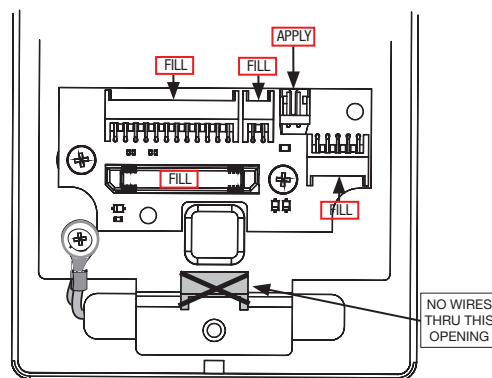
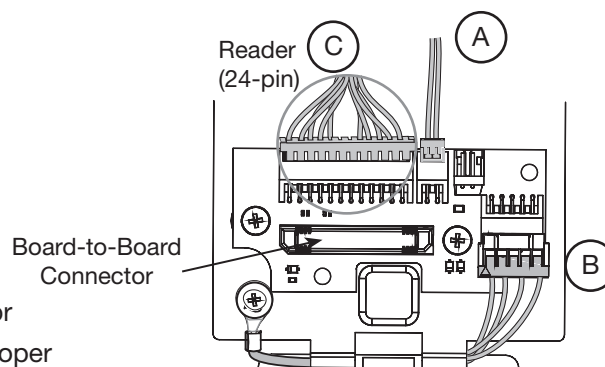

Fig. 3A
Fig. 3B
NOTE: Exit chassis harness consists of a 6-pin female connector and two different-sized ground lugs (Fig. 3A)
2. Feed 6-pin connector and larger ground lug straight through to outside of door (Fig. 3A, B) while feeding smaller ground lug into wire hole, up through wire channel and out through inside of door (Fig. 3A).
- Ensure all connector pins and contacts (Fig. 3A) are covered - do not overfill or over-apply\*\*
IMPORTANT: Do not run wires through bottom hole in plate (Fig. 3A, B) - it will damage wires and the controller connector. Route wires around flange, do not route wires through the flange hole (Fig. 3B).
Secure the following connectors (Fig. 3A, B):
- Secure the mounting assembly while ensuring proper alignment of outside reader and fully tighten the (2) through-bolts on the inside of the door to secure the reader and plate to the door
C. Secure the 24-pin card reader connector (Fig. 3B)